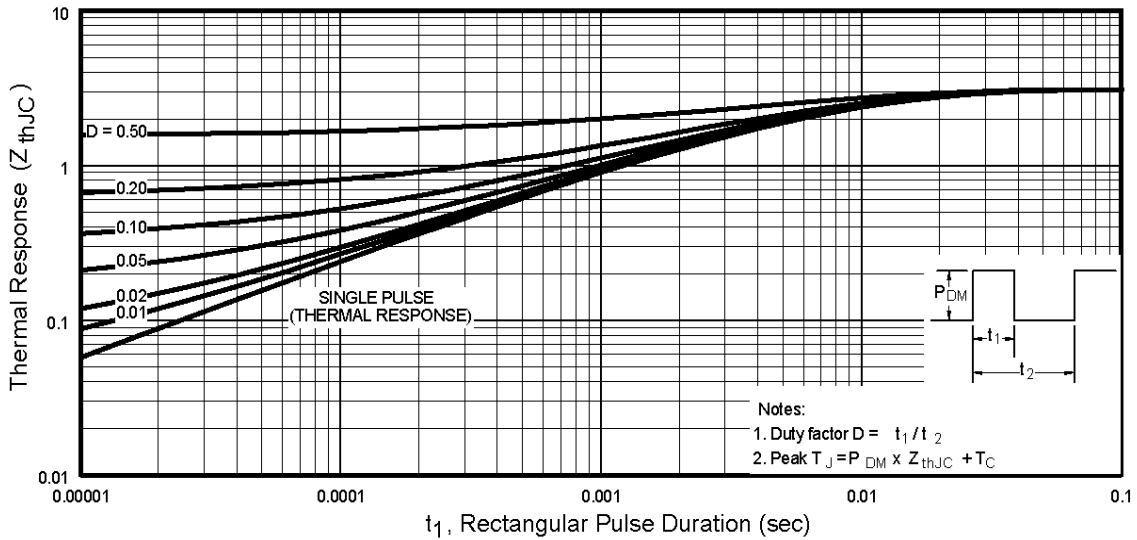

Fig 11. Maximum Effective Transient Thermal Impedance, Junction-to-Case
- ① Repetitive rating; pulse width limited by max. junction temperature. (See fig. 11)
- ② $V_{DD} = 25V$, starting $T_J = 25^\circ C$, $L = 4.7mH$